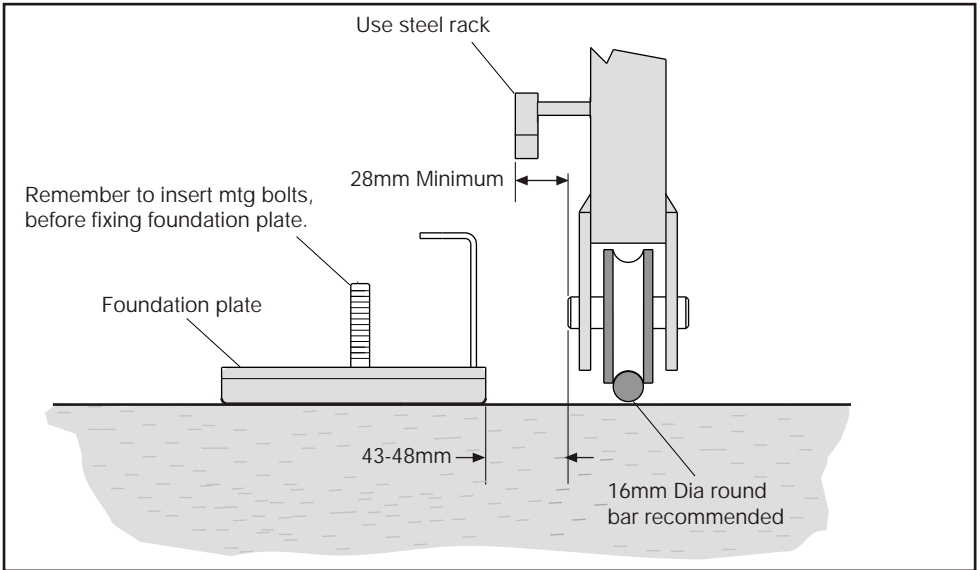

Figure 10 Rack Axle Clearance
- The LH concrete anchor (7) may need to be broken off in order to clear incoming conduits.
- Make sure the M10 bolts (8) which secure the gearbox are in place.
- Refer to the Fig. 10 to ensure correct positioning. Mark through the foundation plate holes to indicate where to drill holes for the M10 rawlbolts (9).
- Use extra washers (10) as required to ensure the foundation plate is level.